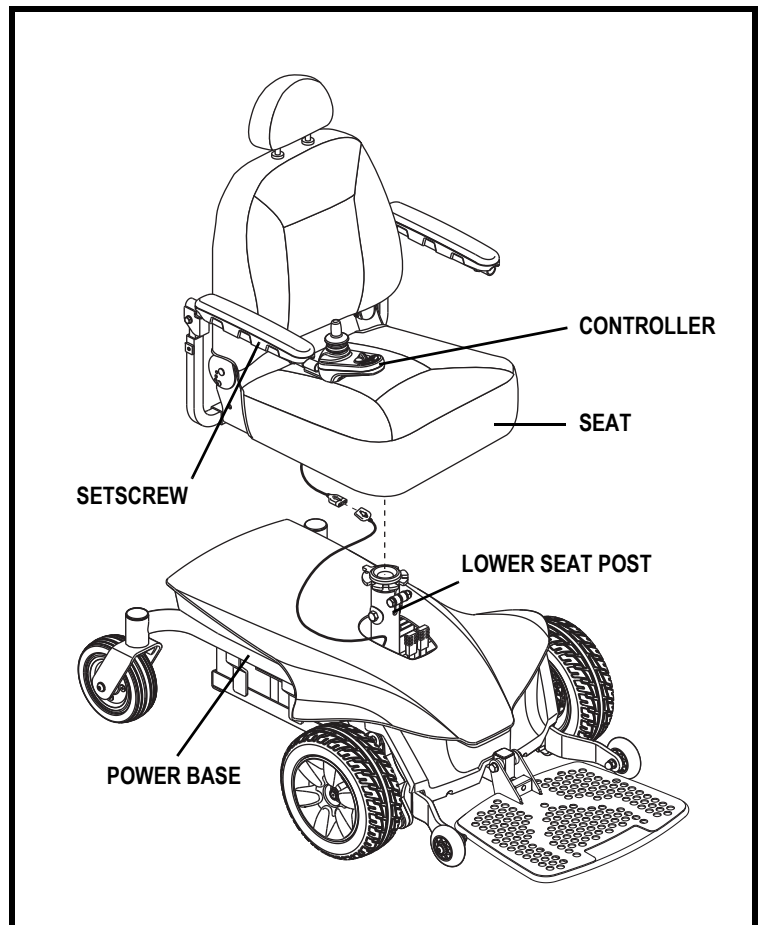

Figure 7. Seat and Controller Assembly
1. Adjust the upper seat post to the desired position and insert the bolt through the seat post and secure with the nut. **See figure 7.**
2. Slide the seat down onto the upper seat post. **See figure 7.**
3. Install the controller into one of the armrests. Tighten the setscrew with the supplied hex key. **See figure 7.**
4. Lift the armrest straight up, then route the controller harness and secure with wire ties as shown in **figures 7 and 8.**